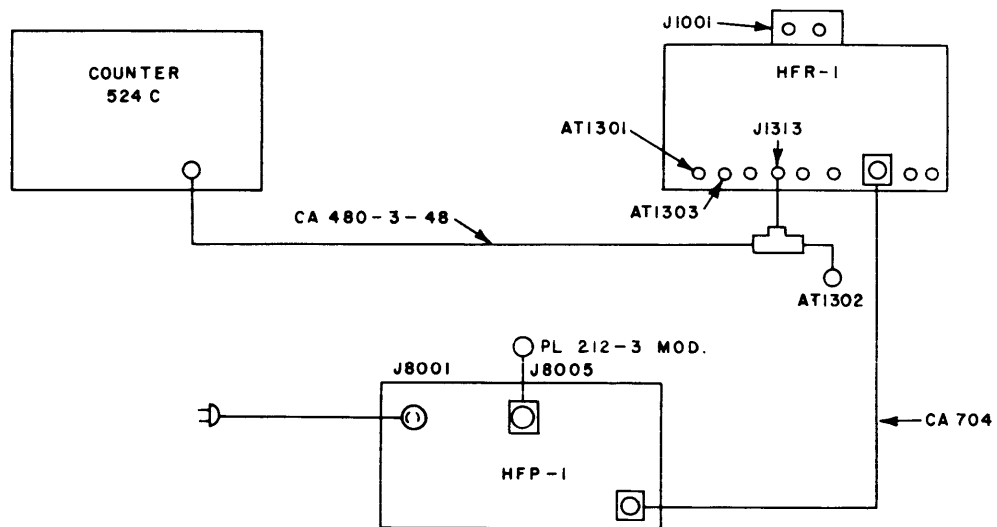

Figure 5-7. Connection Diagram Calibrating MEGACYCLE Dial
(1) Connect Electronic Counter, Hewlett Packard Model 524C or equivalent, and power supply (HFP-1) to HFR-1 as shown in connection diagram figure 5-7.
(2) Ensure that input to ANT jack J1001 is zero, or that J1001 is disconnected.
(3) Set TUNE/SYNC/OPERATE and NOISE SILENCER/OFF/ALIGNMENT SIGNAL control knobs of HFR-1 at TUNE and OFF respectively.
(4) Tune HFR-1 to low and high frequencies of each RF band, and note counter indications. MEGACYCLE dial calibration should be as follows: